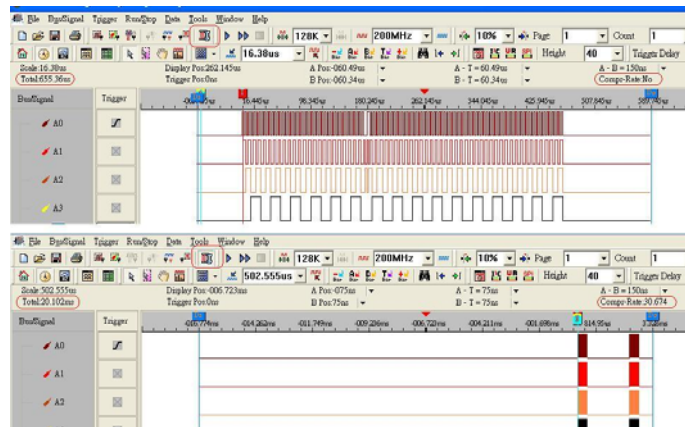

Fig 4-42 – Before and After Compression
- Step 4.** Click Run, and then activate the signal from the tested circuit to acquire the result on the wave display area. Fig 4-42 show the result before and after compression has been applied.